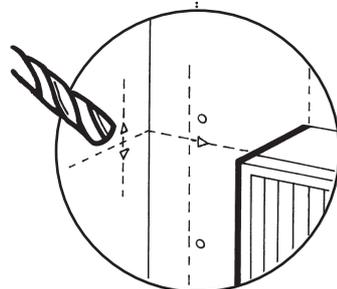

Fig. 44
12. Cut a hole approximately 107mm ( $4\frac{1}{4}$  in) diameter in the masonry for the 100mm (4 in) diameter flue duct (Fig. 44). (Use of a core drill is recommended. When using a core drill, it is important to keep the drill level and square, particularly with the wall onto which the boiler is to be fitted).